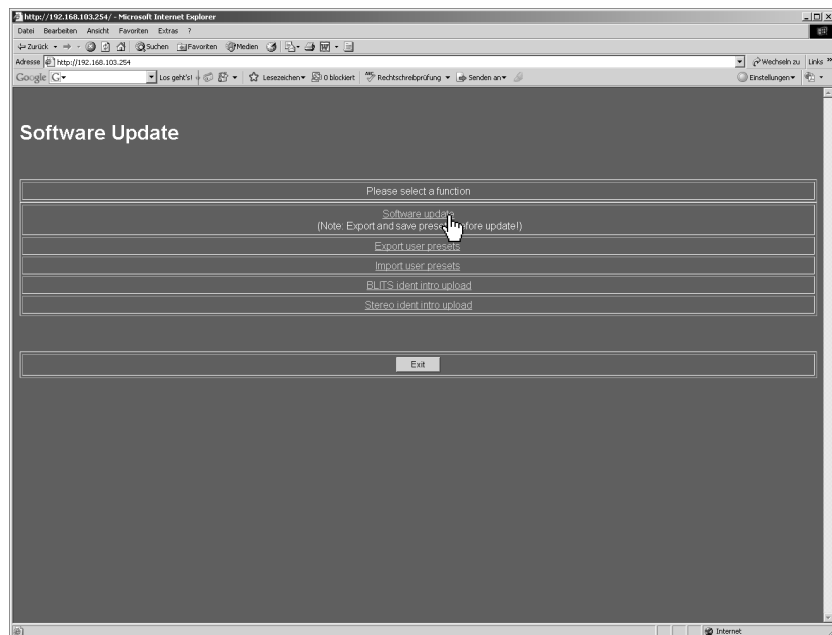

Fig. 8-4: Software Update Program menu in web browser
2. The SurroundControl should respond with a screen like the one shown in Fig. 8-4. Choose Software update.